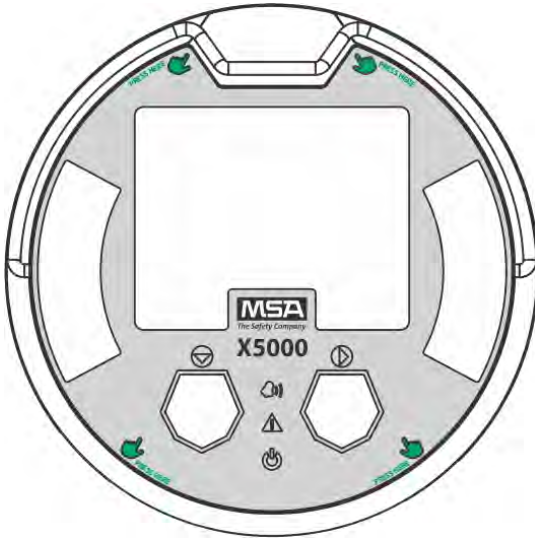

Fig. 33 Highlighted Areas Show Where to Press when Replacing a Board Stack
- (12) Replace the board stack by aligning the four metal standoffs with the four holes inside the ULTIMA X5000 housing. Push firmly on the board stack where indicated (see Fig. 33).